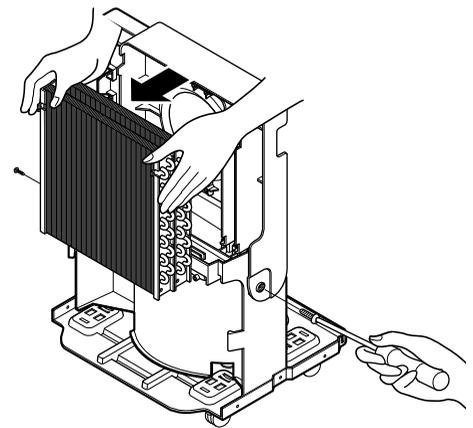

Figure 23
4. Unfasten 2 screws that secure the shroud on the sides and then lift shroud from the drain pan. (See Figure 23)